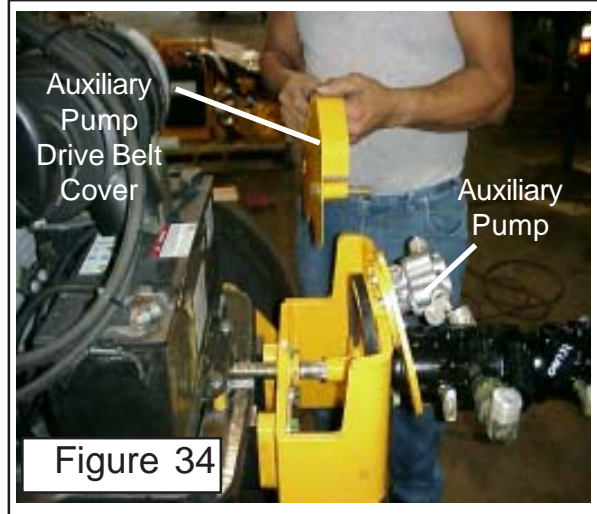

Figure 34
- E. Install Aux. Pump Belt Cover. The belt cover will mount on the same two bolts that mounts the aux pump mount plate to the main pump mount plate. Do not tighten the mount ing bolts yet. (See Figure 34).